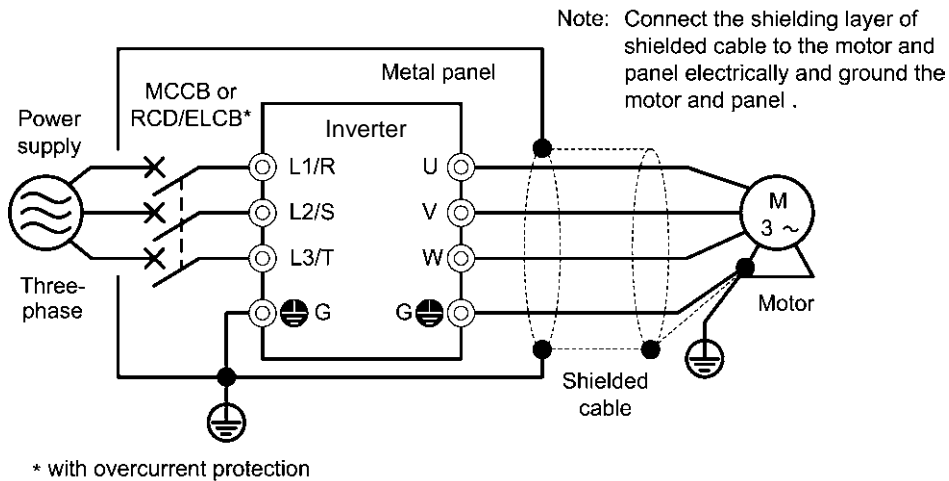

Fig. G.1-3 Installation method for built-in type EMC-compliant filter
- (1) Mount the inverter on a grounded panel or metal plate. Use shielded wires for the motor cable and route the cable as short as possible. Firmly clamp the shields to the metal plate to ground them. Further, connect the shielding layers electrically to the grounding terminal of the motor. Use a wiring guide, etc., and try as best as possible to keep input wires and output wires separate from one another.
- (2) For connection to inverter's control terminals and for connection of the RS-485 communication signal cable, use shielded wires. As with the motor connections, clamp the shields firmly to a grounded panel.
- (3) If noise from the inverter exceeds the permissible level, enclose the inverter and its peripherals within a metal panel as shown in Fig. G.1-3.